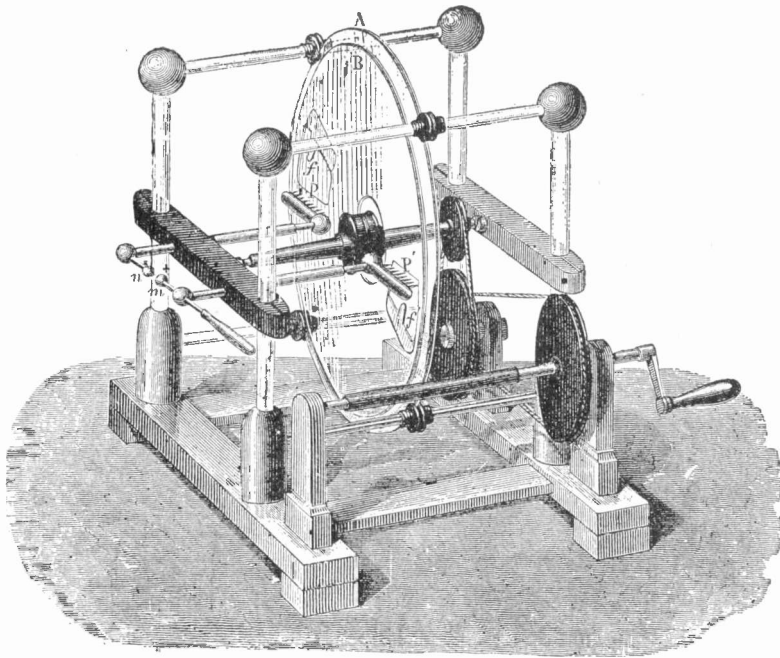

FIG. 110. THE HOLTZ MACHINE
A common form of influence machine known as the Holtz machine is represented in Fig. 110. It consists of two glass plates (A) and (B), thoroughly insulated from each other and from the ground. The smaller of the plates (B) is so supported on a horizontal axis